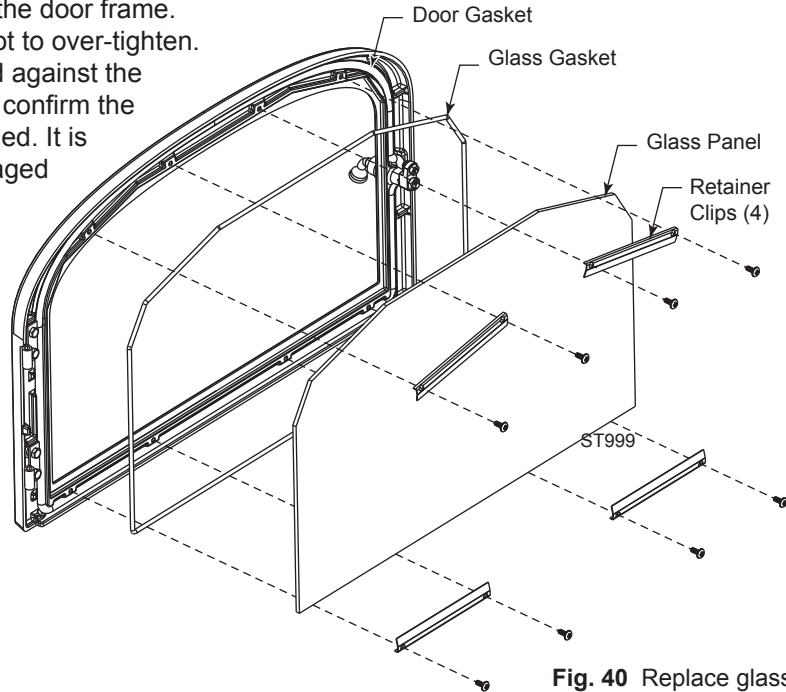

Fig. 40 Replace glass.
- Open the door and loosen the four retaining clip screws that hold the glass to the door. Swing the clips out of the way. Tilt the glass away from the door frame and lift up. (Fig. 40) Wear gloves and use caution when handling broken glass.